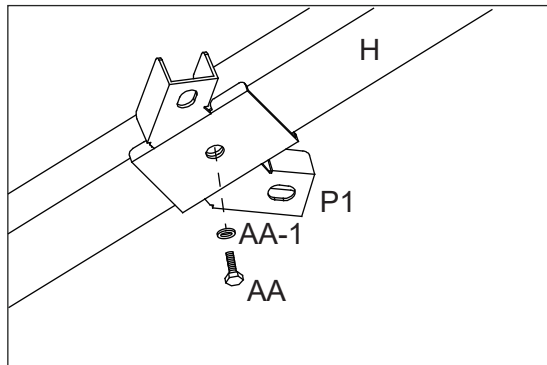

Figure 9-2
9.2: Attach Connector (P1) to Main Roof Corner Support (H) using Bolt (AA) and washer (AA-1). See Figure 9-2.